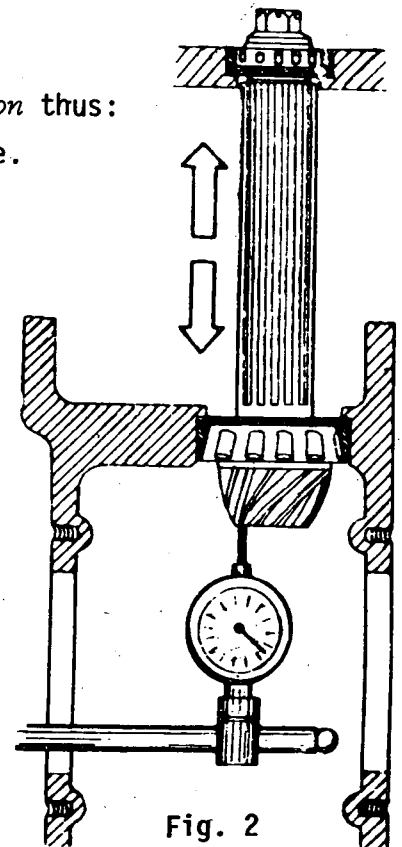

Fig. 2
- b) Place the dial gauge at the end of the drive pinion (Fig. 2).